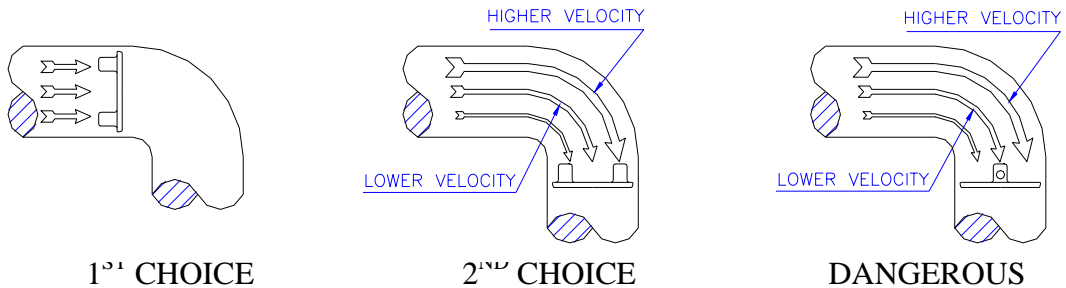

Fig.16
5.7. The typical installation for the butterfly valve connected to an elbow would be to align the shaft axis to allow equal flow on each side of the shaft, minimizing dynamic torque requirements for the valve. (Fig. 16)